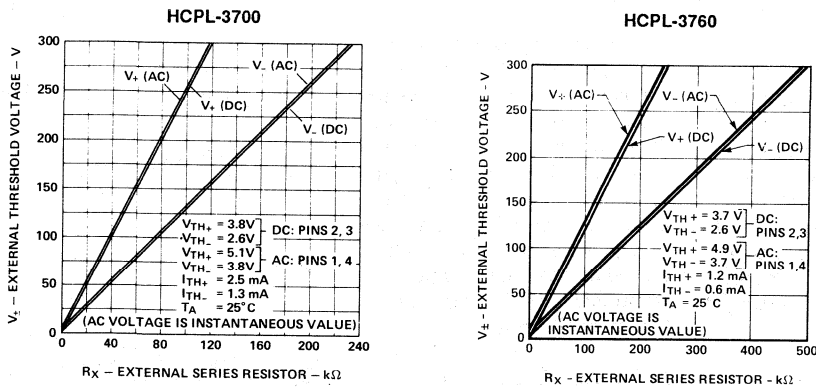
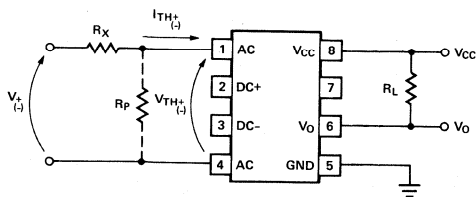

Figure 11. Typical External Threshold Characteristics, V_{\pm} vs. R_x .
Figure 12. External Threshold Voltage Level Selection.
The HCPL-3700/3760 optocouplers have internal temperature compensated, predictable voltage and current threshold points which allow selection of an external resistor, R_x , to determine larger external threshold voltage levels. For a desired external threshold voltage, V_+ , a corresponding typical value of R_x can be obtained from Figure 11. Specific calculation of R_x can be obtained from Equation (1). Specification of both V_+ and V_- voltage threshold levels simultaneously can be obtained by the use of R_x and R_p as shown in Figure 12 and determined by Equations (2) and (3).